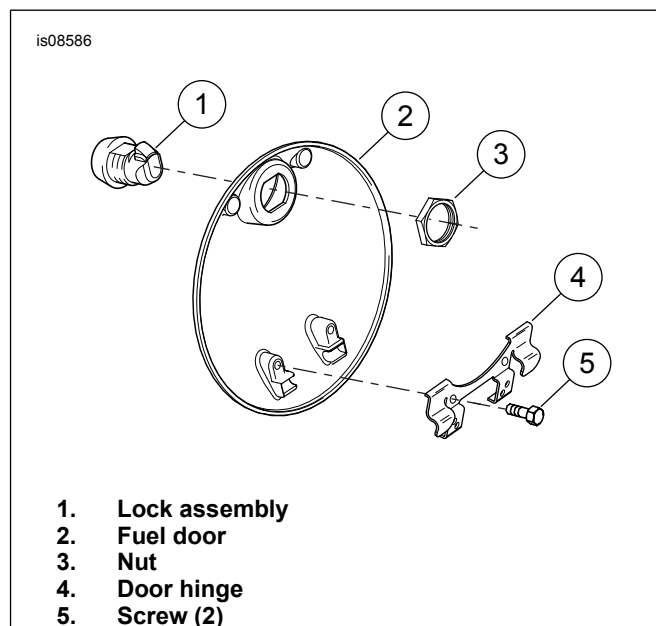

Figure 1. Fuel Door
1. Open the original equipment (OE) fuel door.
2. See Figure 1. Remove the nut (3) securing the lock assembly (1) to the fuel door (2).
3. Install lock assembly to **new** fuel door. Secure with nut (3). Tighten nut finger-tight.
4. Remove the two screws (5) securing the OE fuel door to the door hinge.
7. Tighten screws (5).